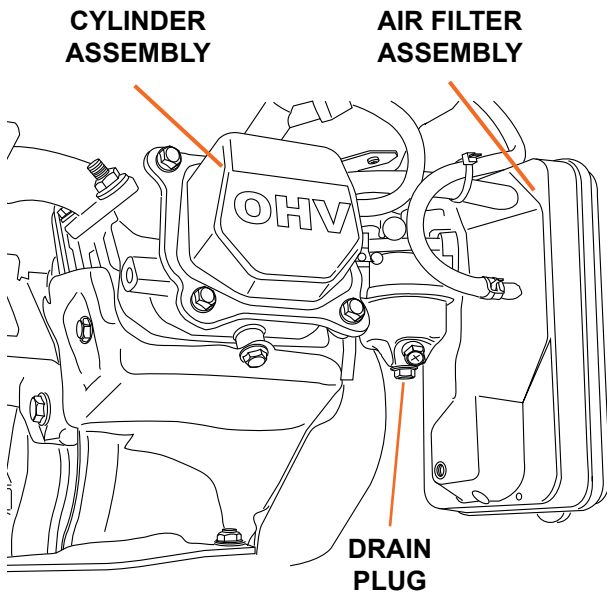

Figure 7
2. When the generator is to be stored for longer than 20 days, prepare the engine for storage by emptying the fuel tank and draining all fuel lines (see Figure 7). Clean out area around spark plug and remove. Pour one tablespoon of engine oil into the cylinder through the spark plug hole. Reinstall the spark plug, but leave the spark plug wire disconnected. Pull recoil starter handle to distribute oil in the cylinder. Stop after one or two revolutions when you feel the piston start the compression stroke (when you start to feel resistance).